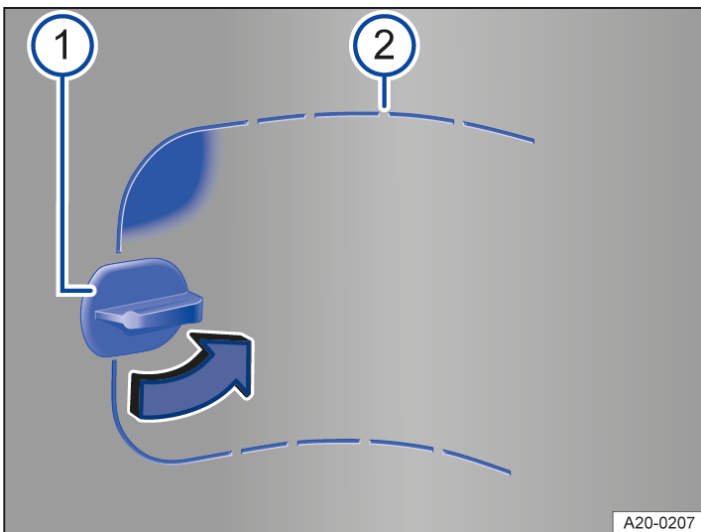

Fig. 2 Luggage compartment trim, bottom right: flap with coupling point.
- Turn the catch of the flap by 90 ° → Fig. 2 (1) (blue directional arrow).
- Press in the area above the catch → Fig. 2 (2) (area marked blue).
- Reach into the opening and release the flap by pulling. If necessary, use a suitable tool at the coupling point → Fig. 2 (2).